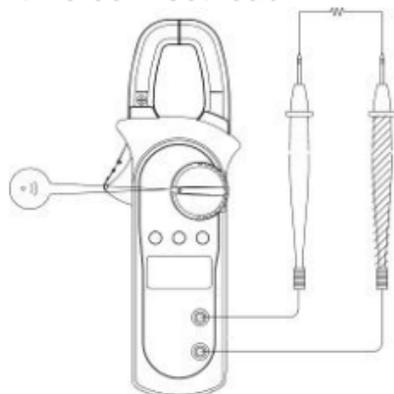

Figure 7
5. Conductance detection (•||) (shown in Figure 7)